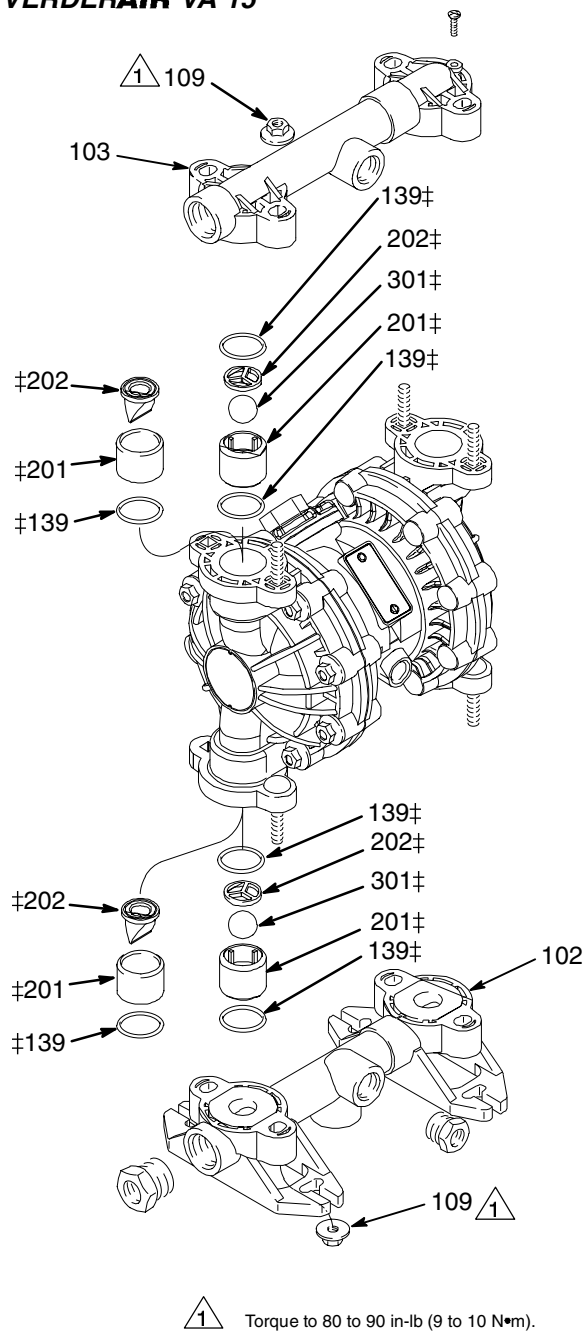
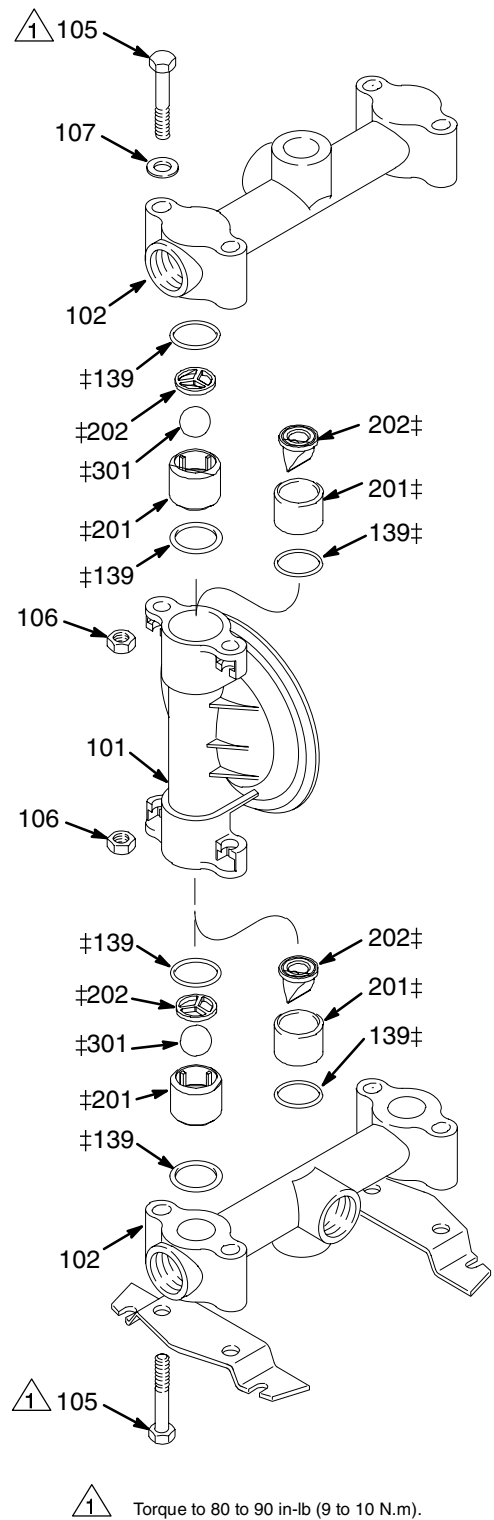

Fig. 7
Fig. 8
NOTE: Fluid Section Repair Kit is available. See page 22 to order the correct kit for your pump. Parts included in the kit are marked with a double dagger (‡) in Fig. 7 and Fig. 8 and in the Parts Drawings and Lists. General purpose grease 819.0184 and Adhesive 819.9741 are supplied in the kit.
3. Remove all parts shown with a dagger (‡) in Fig. 7 and Fig. 8.
NOTE: Make sure all the check valve parts stay in place. See Fig. 7 on page 15.
6. Put grease on the diaphragm shaft (15), and carefully (do not damage the shaft u-cups) run the diaphragm shaft (15) through the center housing (11) bore.
7. Repeat step 5 for the other end of the diaphragm shaft (15), and torque the fluid-side diaphragm plates (105) to 80 to 90 in-lb (9 to 10 N.m) at 100 rpm maximum.
8. Install the muffler (3).
9. Make sure all the check valve parts are in place. See Fig. 7 on page 15.
10. Reinstall the fluid covers (101) and manifolds (102 and 103), and torque the fluid cover and manifold nuts (109) to 80 to 90 in-lb (9 to 10 N.m).
NOTE: Make sure all the check valve parts stay in place. See Fig. 8 on page 15.
9. Apply thin film of grease to inside of vee clamps (109).
10. Position the fluid covers (101), install the vee clamps (109) around the fluid and air covers, install the grounding strip on the vee clamps, and torque the vee clamp nuts to 80 to 90 in-lb (9 to 10 N.m).
11. Make sure all the check valve parts are in place. See Fig. 8 on page 15.
12. Install the manifolds (102), and torque the manifold bolts (105) to 80 to 90 in-lb (9 to 10 N.m).